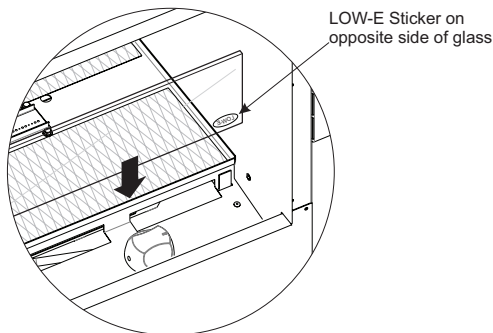

Figure 24
2. Install the glass wind panel (two used on see-through fireplaces). The glass panel has a low emission (low-E) coating applied to one side. The panel must be installed with the low-E coating facing the burner. The panel will have a sticker located in the bottom corner of the side which has the low-E coating. Install the glass panel with the sticker facing the burner and the bottom of the panel. **See Figure 24.** **DO NOT REMOVE THE STICKER** before installing the glass panel. It is located on the panel such that it should not be visible after the control door is installed. This will allow easy identification of the low-E side of the glass if the glass panel is ever removed for service.